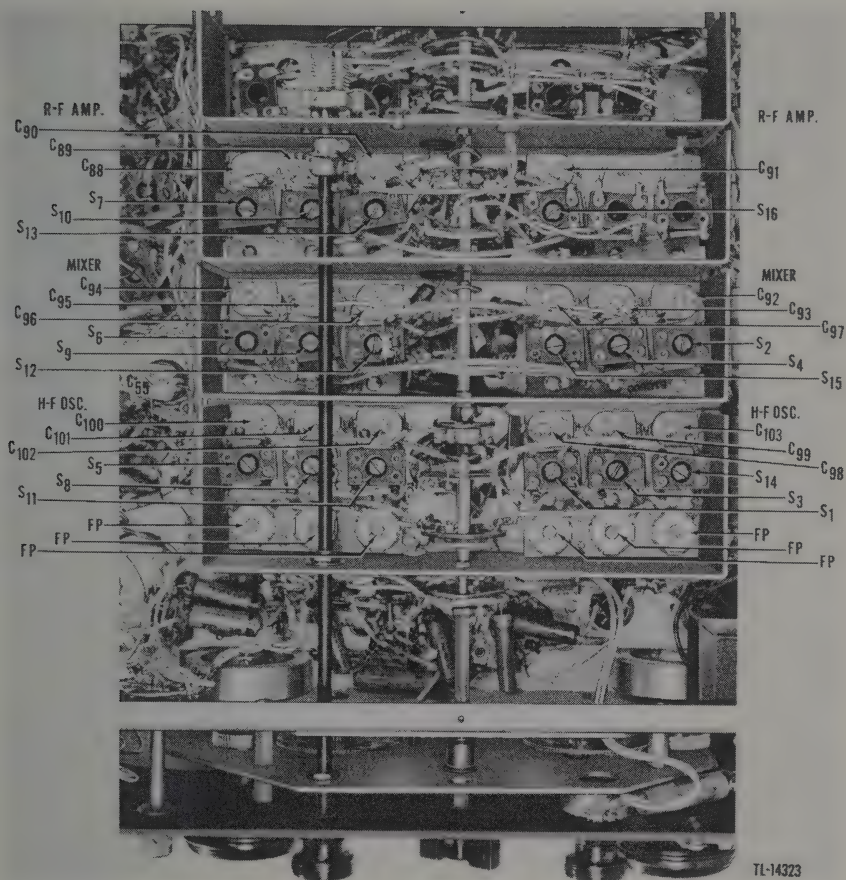

Figure 23. R-f and oscillator adjustments.
CAUTION: FP, shown in figure 23, indicates a fixed pad.
- (3) Adjust the various controls as shown in the following table for maximum indication of the output meter. See figure 23 for these adjusting locations.